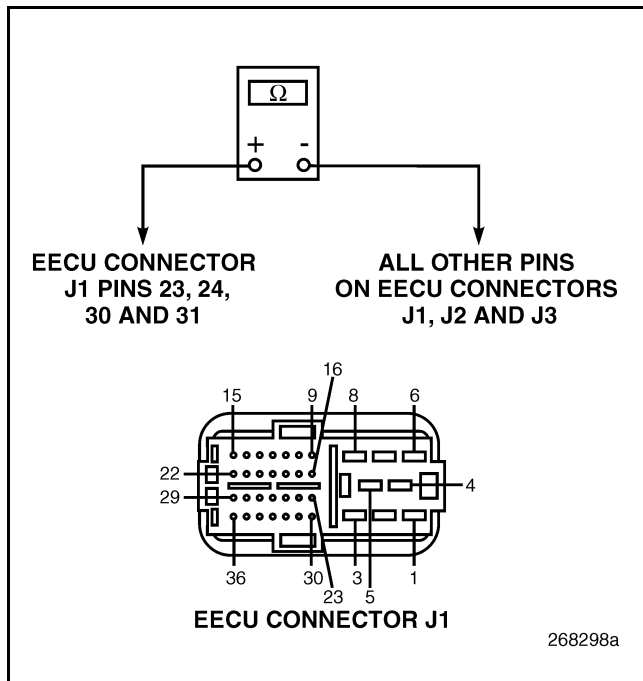

Figure 655
5. Check for continuity between EECU connector J1 pins 23, 24, 30 and 31 versus all other pins on EECU connectors J1, J2 and J3 (see Figure 655).